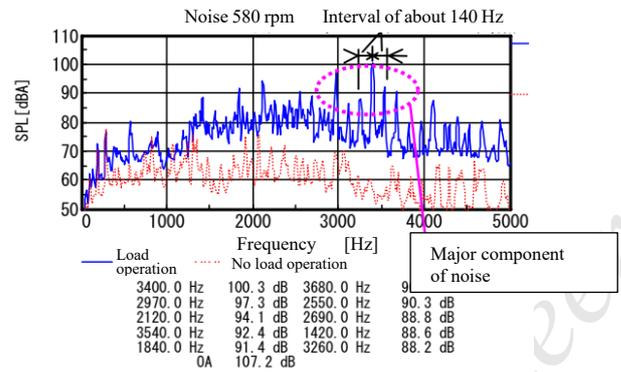
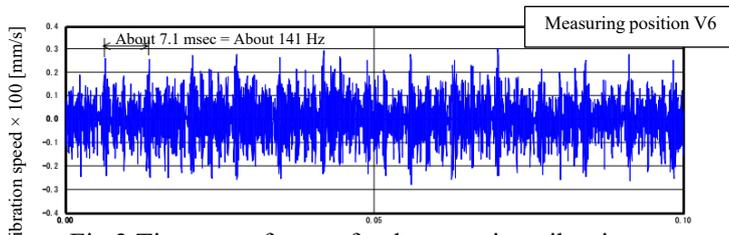

Fig.2 Narrow band frequency analysis result of noise measurements
Fig.3 Time waveforms of reducer casing vibration
Analysis and Data Processing	<p>In order to identify the cause, measurements were made of noises and vibrations during reducer operation, and the results of narrow band frequency analysis of measured noises are shown in Fig. 2, which indicates that the main component has a frequency of 3,400Hz. On the other hand, consistency of the gear meshing frequency (Table 1) was checked, but no component corresponding to 3,400Hz was found. After reviewing Fig.2, a feature was found that, in addition to 3,400Hz noises, there are sideband waves at an interval of about 140Hz. Then, time waveforms of casing vibrations (Fig.3) were checked to find that shock vibrations occurred at an interval of about 7.1ms = about 141Hz.</p> <p>As the gear has no frequency component that corresponds to 140Hz, characteristic frequency of each rolling bearing was checked (Table 2). The result proved that the above frequency is nearly equal to the frequency generated by the bearing ② that has damage on the outer race, and thus bearing disassembling inspection was conducted.</p>